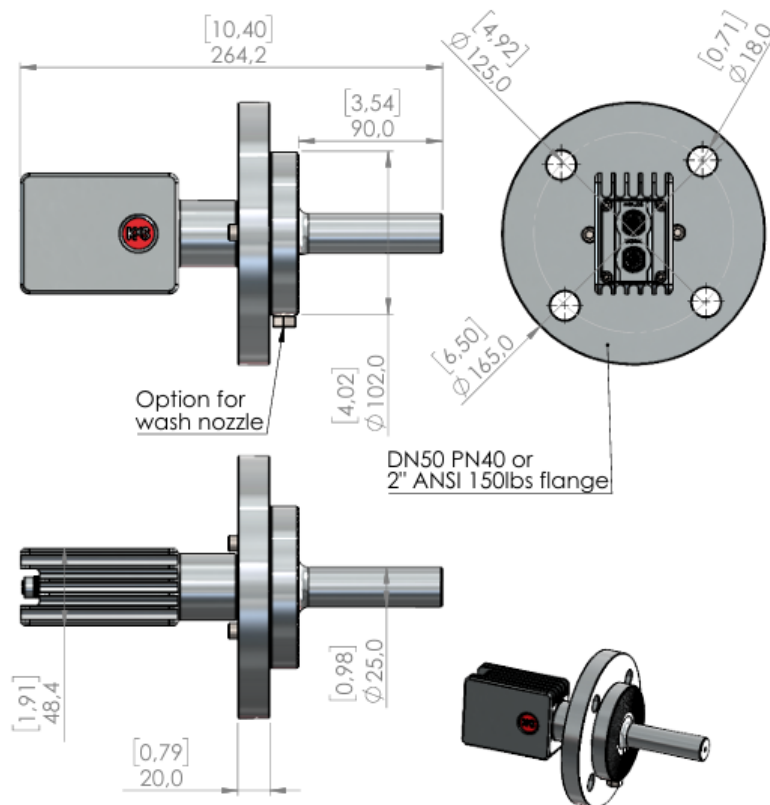
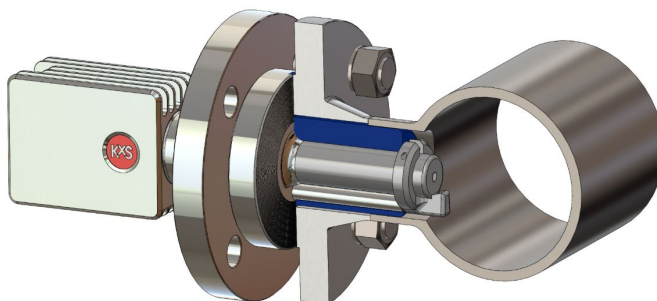

Figure 30 Long probe sensor with flange connection and blind wash nozzle connection. DWG No. 10657.
Figure 31 Installation of long probe sensor with flange connection and with wash nozzle.
Fig 30 illustrates a flange-mounted long probe sensor with blind wash nozzle connection. Fig. 31 illustrates installation of a flange-mounted long probe sensor with wash nozzle.
**⚠ IMPORTANT:** It is recommended to specify the flange-mounted sensor with a blind wash nozzle connection (see Figure 30) for all crystallizer applications. This allows an automatic prism wash nozzle to be installed later without replacing the sensor, should process conditions require it.
See Fig 31 for installation of long probe sensor in pipe with flange connection and integral wash nozzle.